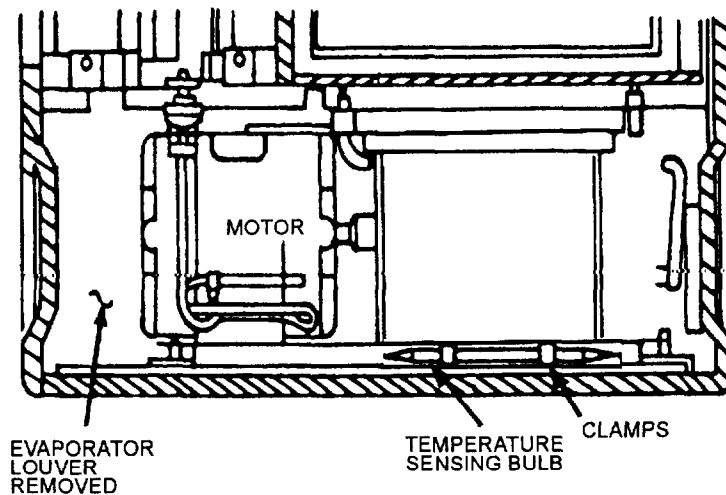

Figure 1. Front View
2. Loosen clamps holding Temperature Selector switch sensing bulb, move bulb to clear housing. Refer to figure 1, front view illustration.
1. Install evaporator fan and housing assembly using four screws (1), four washers (3), four nuts (2) and four mounts (4).
2. Secure housing (17) using four screws (5) and four washers (6 and 7).
3. Place the Temperature Selector switch sensing bulb in clamps and tighten screws. Refer to figure 1, front view illustration.